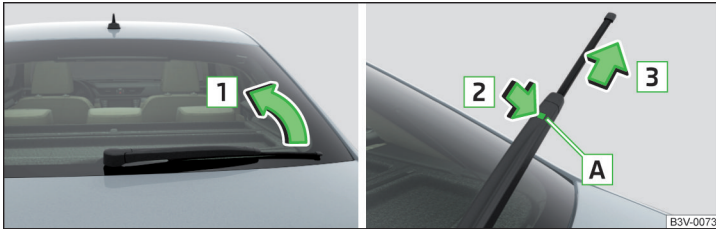

Fig. 253 Replace the rear window wiper blade
- Lift the window wiper arm » page 210 from the window in the direction of arrow **1** » Fig. 253.